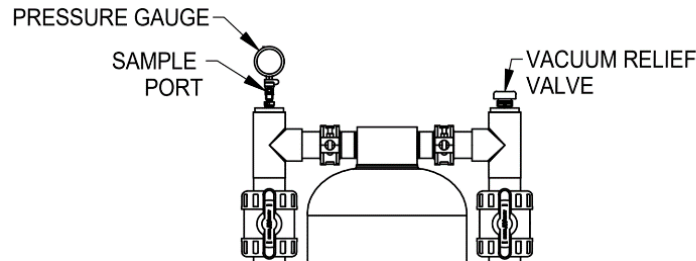

Figure 3-2 WQ-AS AquaSolve Header Connections
10. Use Teflon tape and install the AquaSolve inlet sample port assembly on the inlet side of the AquaSolve tank (see Figure 3-2).
11. Use Teflon tape and install AquaSolve vacuum relief valve on the outlet side of the AquaSolve tank (see Figure 3-2).